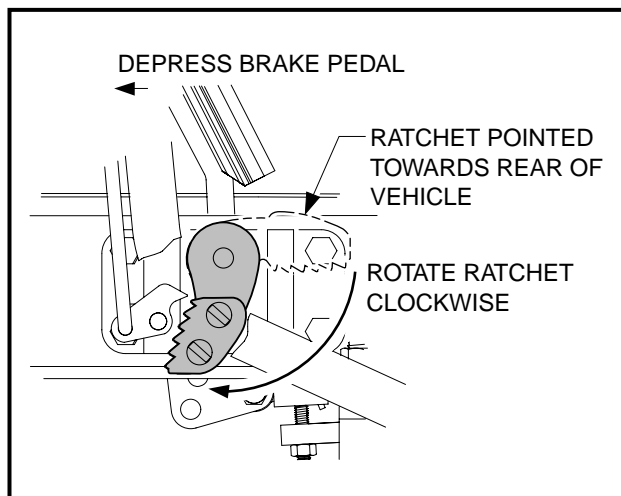

Figure 5-28 Ratchet Installation
7. Depress the brake pedal slightly, and with the park brake ratchet oriented so that the tip of the ratchet is pointed toward the rear of vehicle, slide the ratchet onto the pivot rod (do not slide the ratchet onto the pivot rod splines). Release the brake pedal and allow the ratchet to rotate until its tip is pointed downward **(Figure 5-28, Page 5-21)**. The ratchet should now rotate freely on the rod.
9. Depress the brake pedal slightly, and with the park brake ratchet oriented so that the tip of the ratchet is pointed toward the rear of vehicle, slide the ratchet onto the pivot rod (do not slide the ratchet onto the pivot rod splines). Release the brake pedal and allow the ratchet to rotate until its tip is pointed downward (**Figure 5-28, Page 5-21**). The ratchet should now rotate freely on the rod.